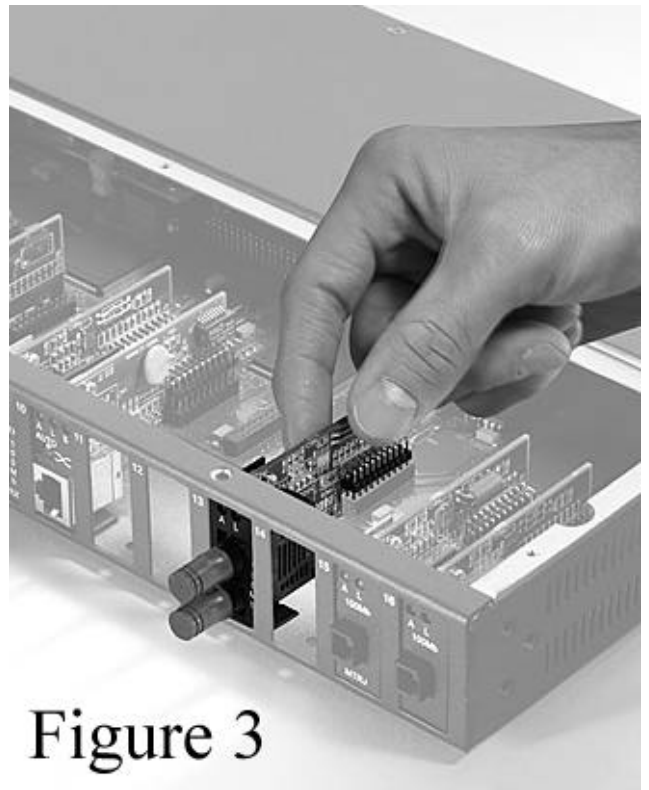

Figure 3
STEP 3: Once the pins are aligned and the module is angled to fit against the front slot, carefully press the pins into position. Some pressure is required (as shown in **Figure 3**). Do not force the pins into the connector when they are not correctly aligned. The pins will become damaged or bent if they have not been aligned properly and are forced into an incorrect position.